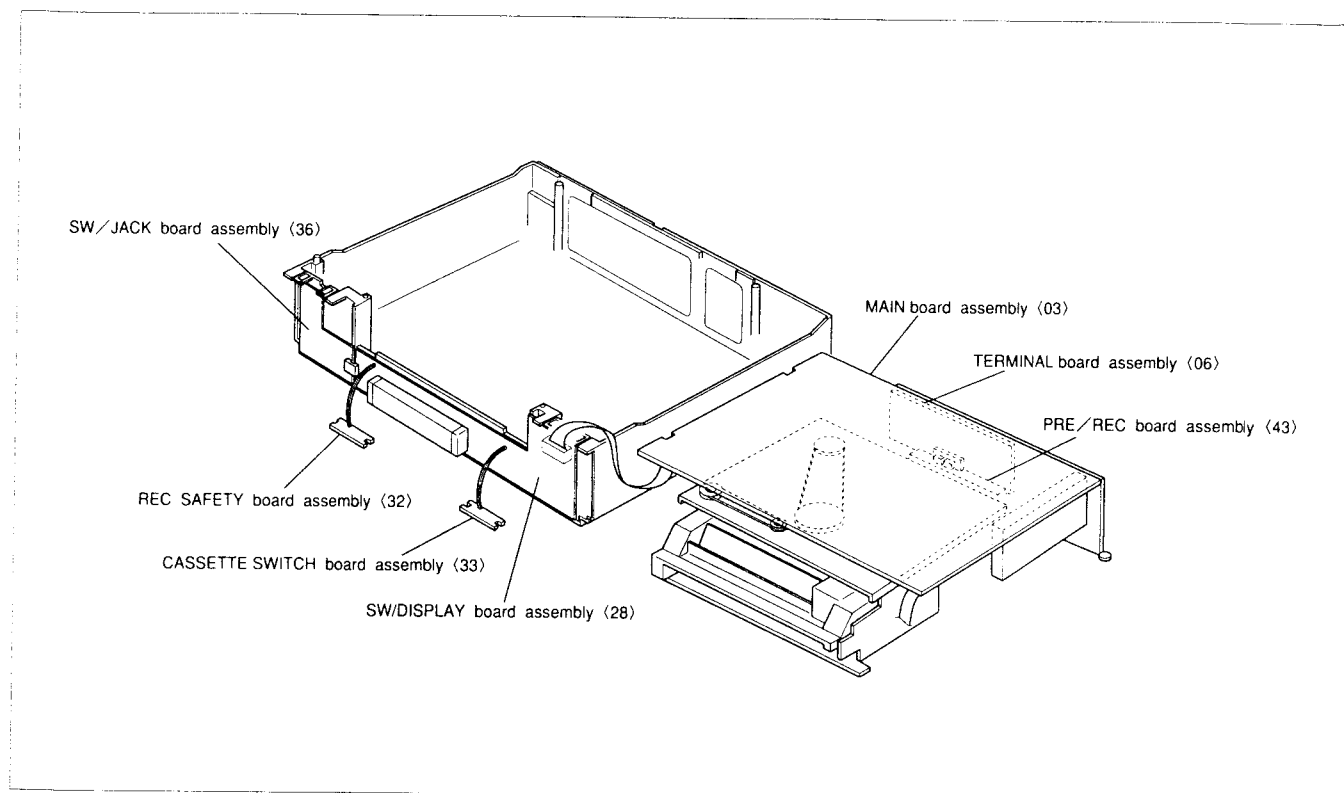

Fig. 1-5-3
- (5) Turn over the Mechanism assembly and Main board assembly then connect CN1201 of the SW/DISPLAY board assembly.
- (6) Carry out checks & repairs as necessary as shown in Fig.1-5-3.